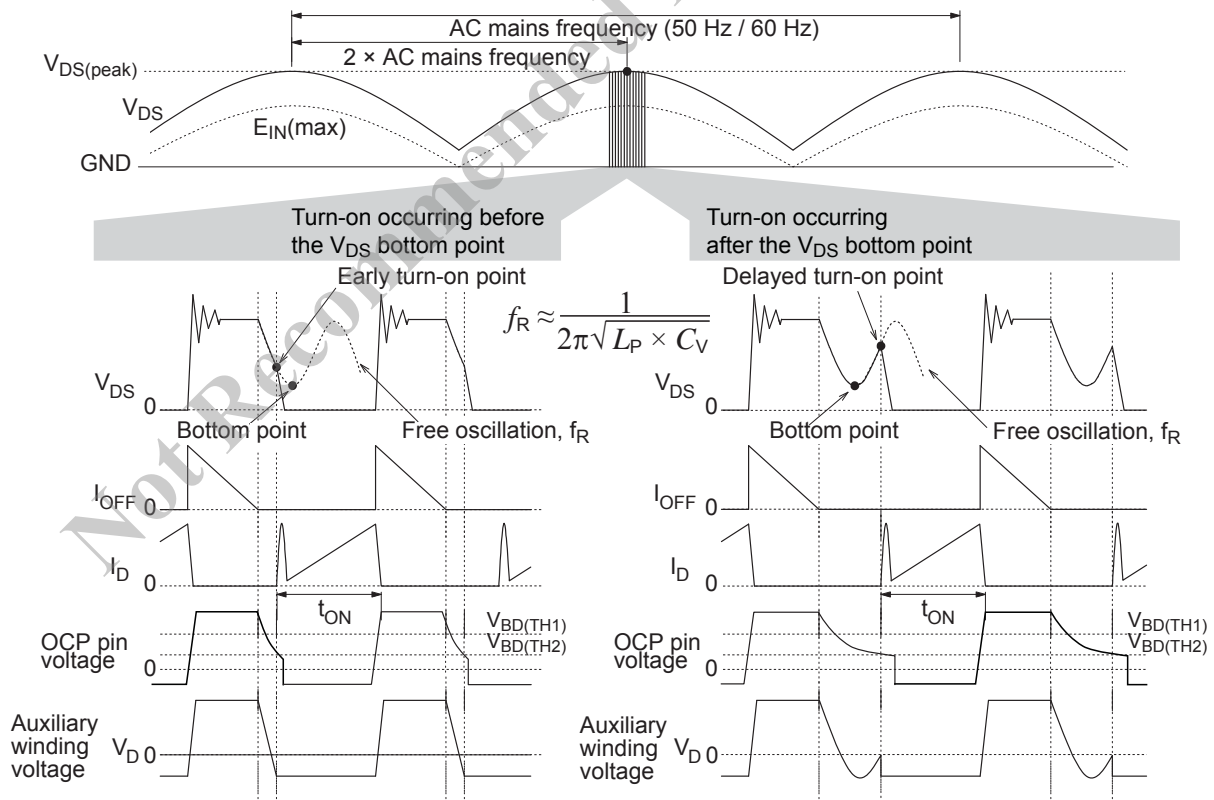

Figure 17. Effects of failure to turn on precisely at the  $V_{DS}$  bottom point: (left) turn-on before a bottom point, and (right) turn-on after a bottom point
- If the turn-on point precedes the bottom of the  $V_{DS}$  signal (see figure 17, left panel), it causes higher switching losses. In that situation, after confirming the initial turn-on point, delay the turn-on point by increasing the  $C7$  value gradually, so that the turn-on will match the bottom point of  $V_{DS}$ .
- In the converse situation, if the turn-on point lags behind the  $V_{DS}$  bottom point (see figure 17, right panel), it causes higher switching losses also. After confirming the initial turn-on point, advance the turn-on point by decreasing the  $C7$  value gradually, so that the turn-on will match the bottom point of  $V_{DS}$ .